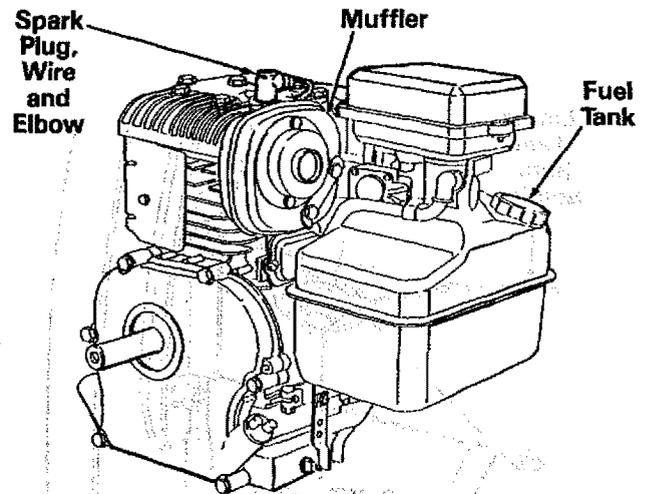

FIGURE 8.
2. Fill fuel tank. See figure 8. Use fresh, clean, unleaded automotive gasoline. Capacity is 3 quarts.